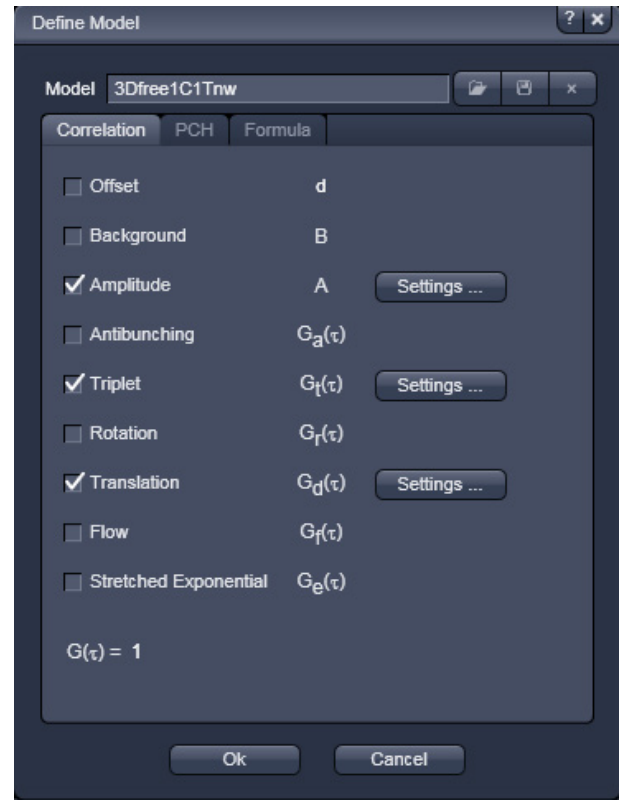

Fig. 275 Define Model panel – Correlation
- Press the **Correlation** tab to activate the options for assembling a correlation model (Fig. 275). Press any other tab to leave the panel.
- You can load a pre-defined model from the **Model** drop down menu. Its name will then be displayed in the **Model** display box (Fig. 275).